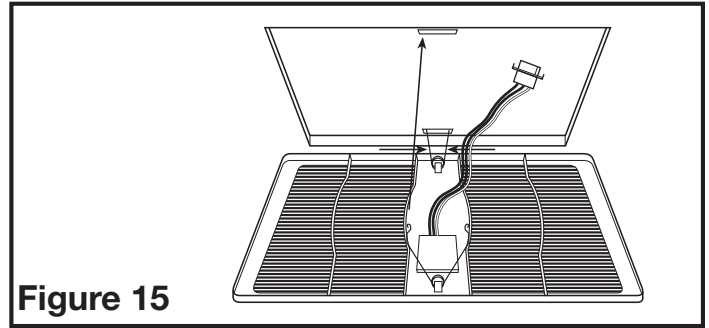

Figure 15
- 5b. **MOTION SENSING MODELS:** Install the grill by squeezing the spring furthest from the motion sensor together and installing it up into the slot furthest from the wire compartment on the fan's housing. Attach the 3 pin quick connect from the motion sensor on the grill to the harness installed in Step 2a. This cord will only fit one way into the receptacle. Install the other spring in place and push the grill up into position (Figure 15).